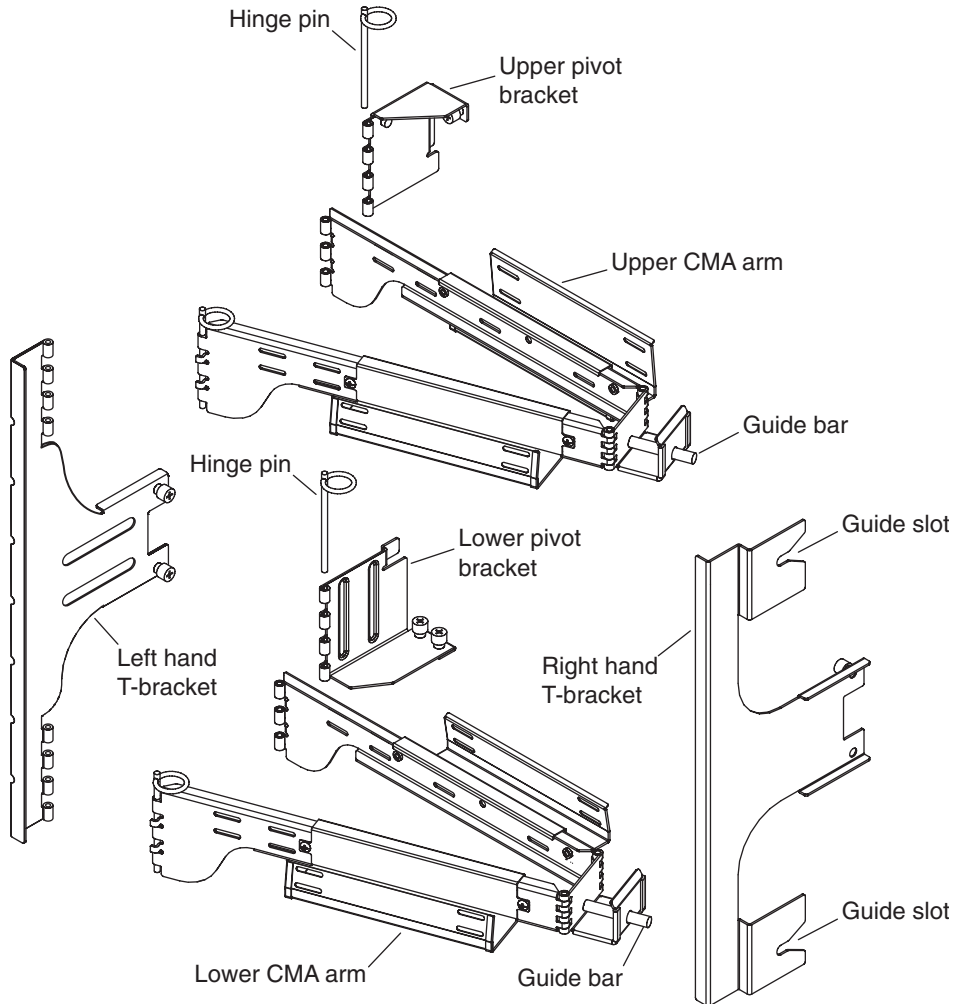

FIGURE 1-17 Upper/Lower CMA Arms and Left Hand/Right Hand T-Brackets
1. Refer to FIGURE 1-17, throughout the following procedure for identification and orientation of CMA parts.